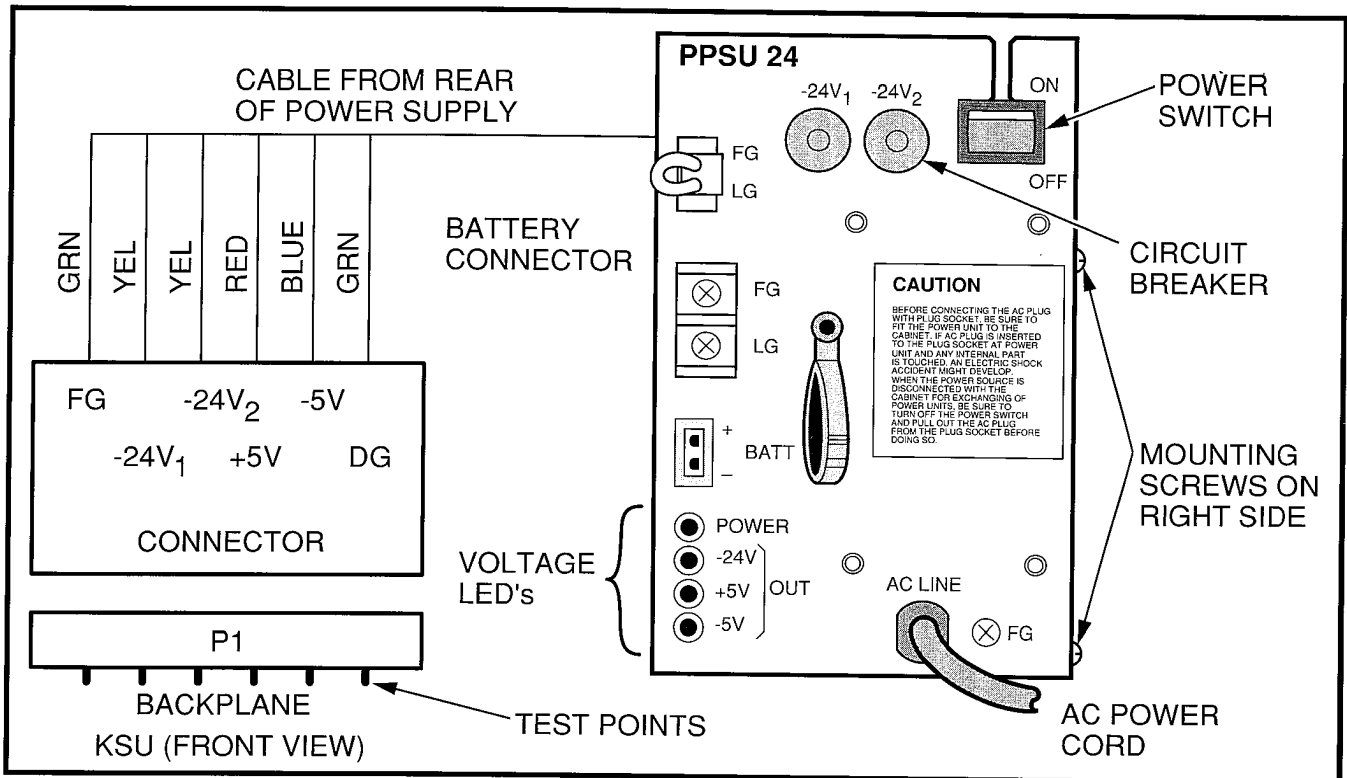

FIGURE 5-2—PPSU24 FRONT PANEL AND DC OUT TEST POINTS
- 4) Using a multimeter (set to the appropriate range), measure the voltages at the pins of the **DC OUT** connector for DK56/DK96 or the **P1** backplane connector for DK24 as shown in Figures 5-2, 5-3, or 5-4. Ensure that the voltages fall within the ranges specified. If a measured voltage falls outside of the acceptable range, remove the DC power plug from the power supply **DC OUT** connector (DK56/96) or **P1** backplane con-
4.11 DK24. Refer to Figure 5-2 and remove the power supply in accordance with the following steps:
4.21 DK24 Refer to Figure 5-2 and replace the PPSU24 in accordance with the following steps: